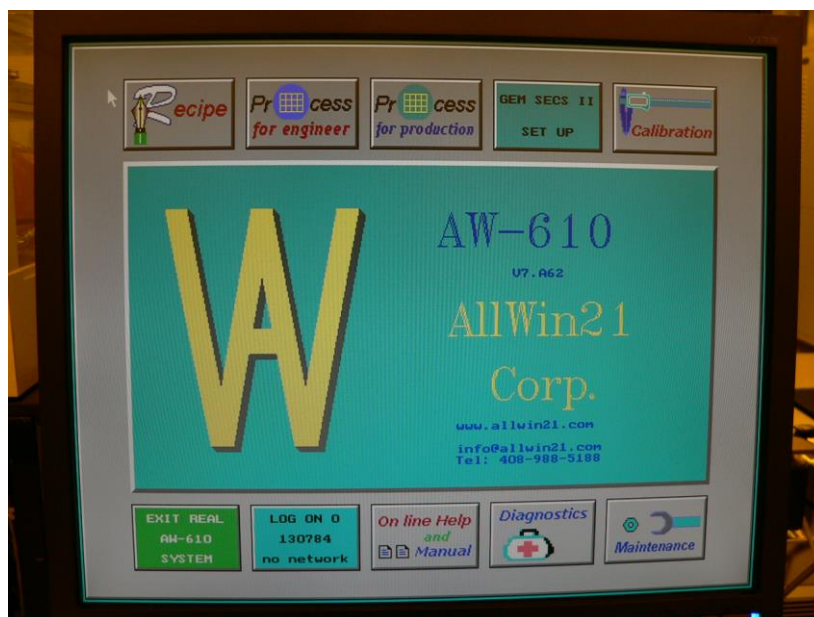

Fig.7 The main page of AW610 operation software
11. The monitor is turned on and shows the main page of the software (Fig.7).